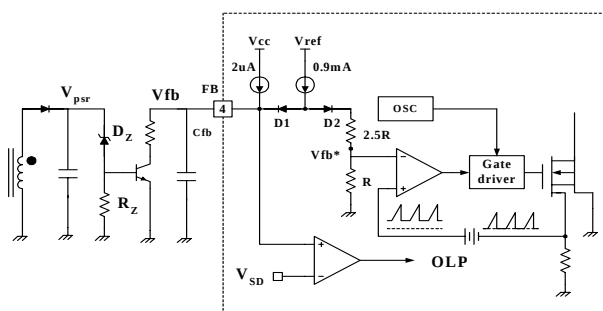

Figure 2. Primary side control circuit
2. Feedback Control : FS8S0765RCB employs primary side regulation, which permits elimination of feedback circuit components in the secondary side such as opto coupler and TL431. Figure 2 shows the primary side control circuit. The primary side regulation voltage (V_{psr}) is controlled to the breakdown voltage of zener diode (D_z). Because current mode control is employed, the drain current of the power MOSFET is limited by the inverting input of PWM comparator (V_{fb*}). When MOSFET turns on, usually there exists high current spike in the MOSFET current caused by primary-side capacitance and secondary-side rectifier reverse recovery. In order to prevent premature termination of the switching pulse due to the current spike, the FPS employs leading edge blanking (LEB). The leading edge blanking circuit inhibits the PWM comparator for a short time after the MOSFET is turned on.